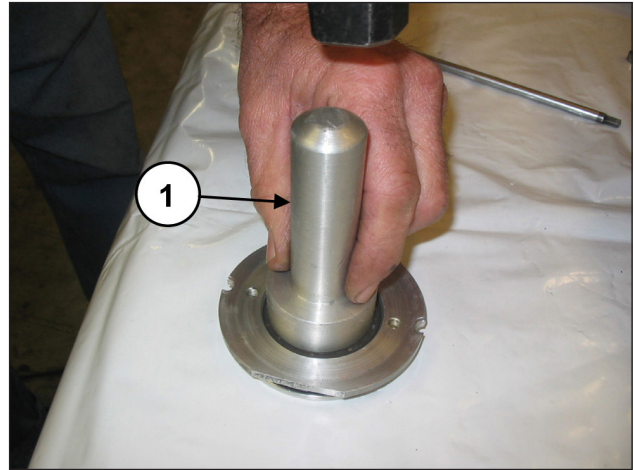

Fig. 169
Mount the oil seal in the oil seal cover (pos. ①, Fig. 169) using a buffer code 27910900.